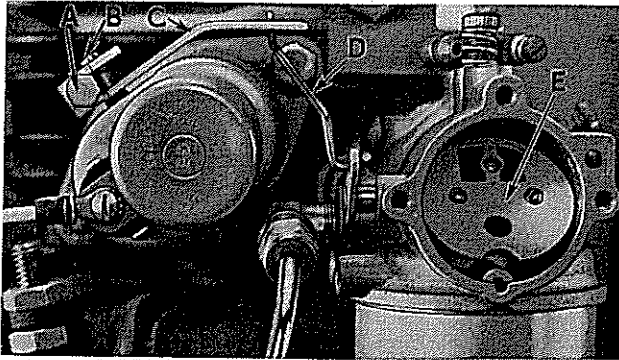
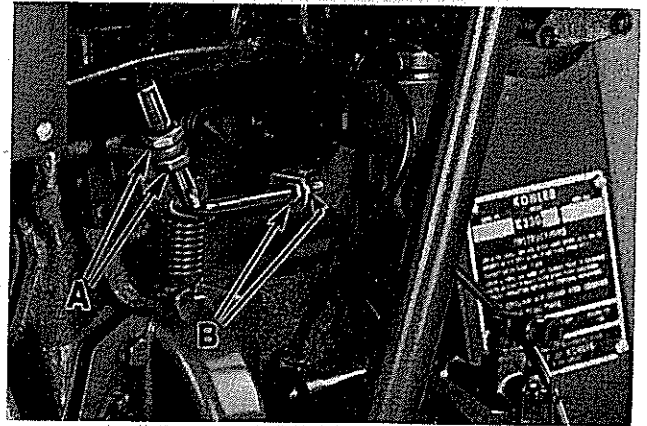

Figure 3
Figure 4
electric plants. Readjustment of the choke is sometimes necessary to match local conditions. This is done by changing the position at which the choke arm (C) is clamped to the cross shaft (B) as shown in Figure 3, to allow more or less choking.
Engines on some applications, such as electric plants, have constant speed settings as shown in Figure 4. The position at which the nuts (B) are clamped to the bracket as shown in Figure 3 determines the governor speed setting.
- b. Governor sensitivity may be adjusted by means of screw (A) in Figure 4. If too sensitive, speed surging may occur on change of load. A big drop in speed when load is applied indicates governor should be set for greater sensitivity. The speed setting screw must be readjusted after each change of the sensitivity.